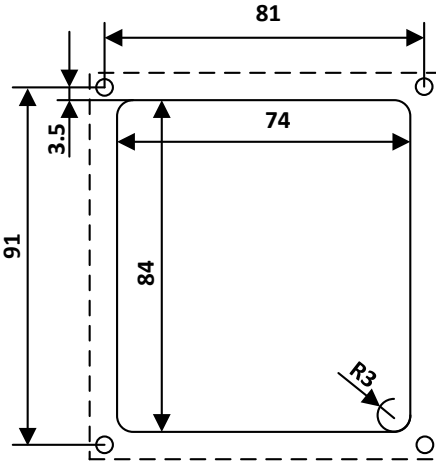

Figure 2
1. Prepare a mounting opening as shown in figure 2.